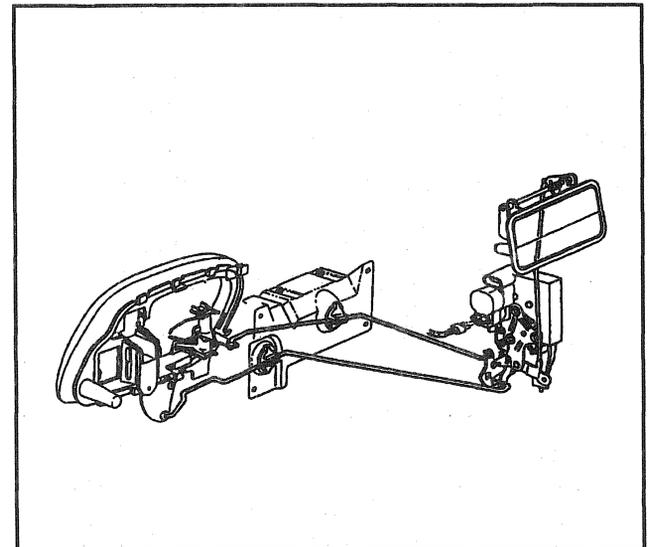

Figure 67—Rear Door Inner Handle Control Rods
4. Inside handle control rod from the handle and lock lever assembly (Figure 67).
5. Inside lock control rod from the handle and lock lever assembly (Figure 67).